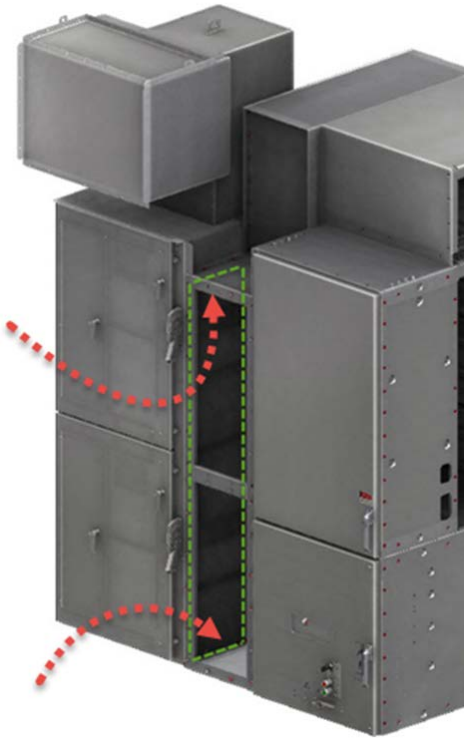

Figure 11: Attach the MCC securely to the Transition Frame
6. Drive the 1/4-20 taptites into the MCC frame connection holes from inside the transition frame and secure it to the Transition Frame (Figure 11). Ensure all frame-to-frame holes are closed with hardware.